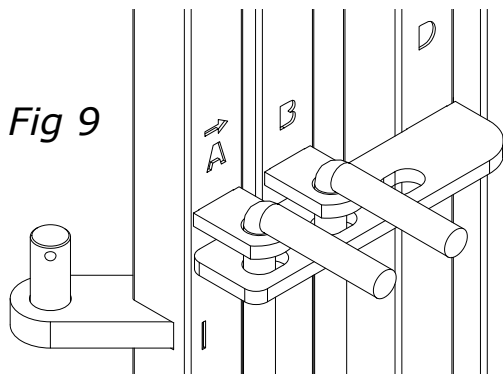

Fig 9
Offer up panel (B) and fix to panel (D) with one of the supplied coupling bars. Use the slot immediately next to panel (A). (Fig 9)